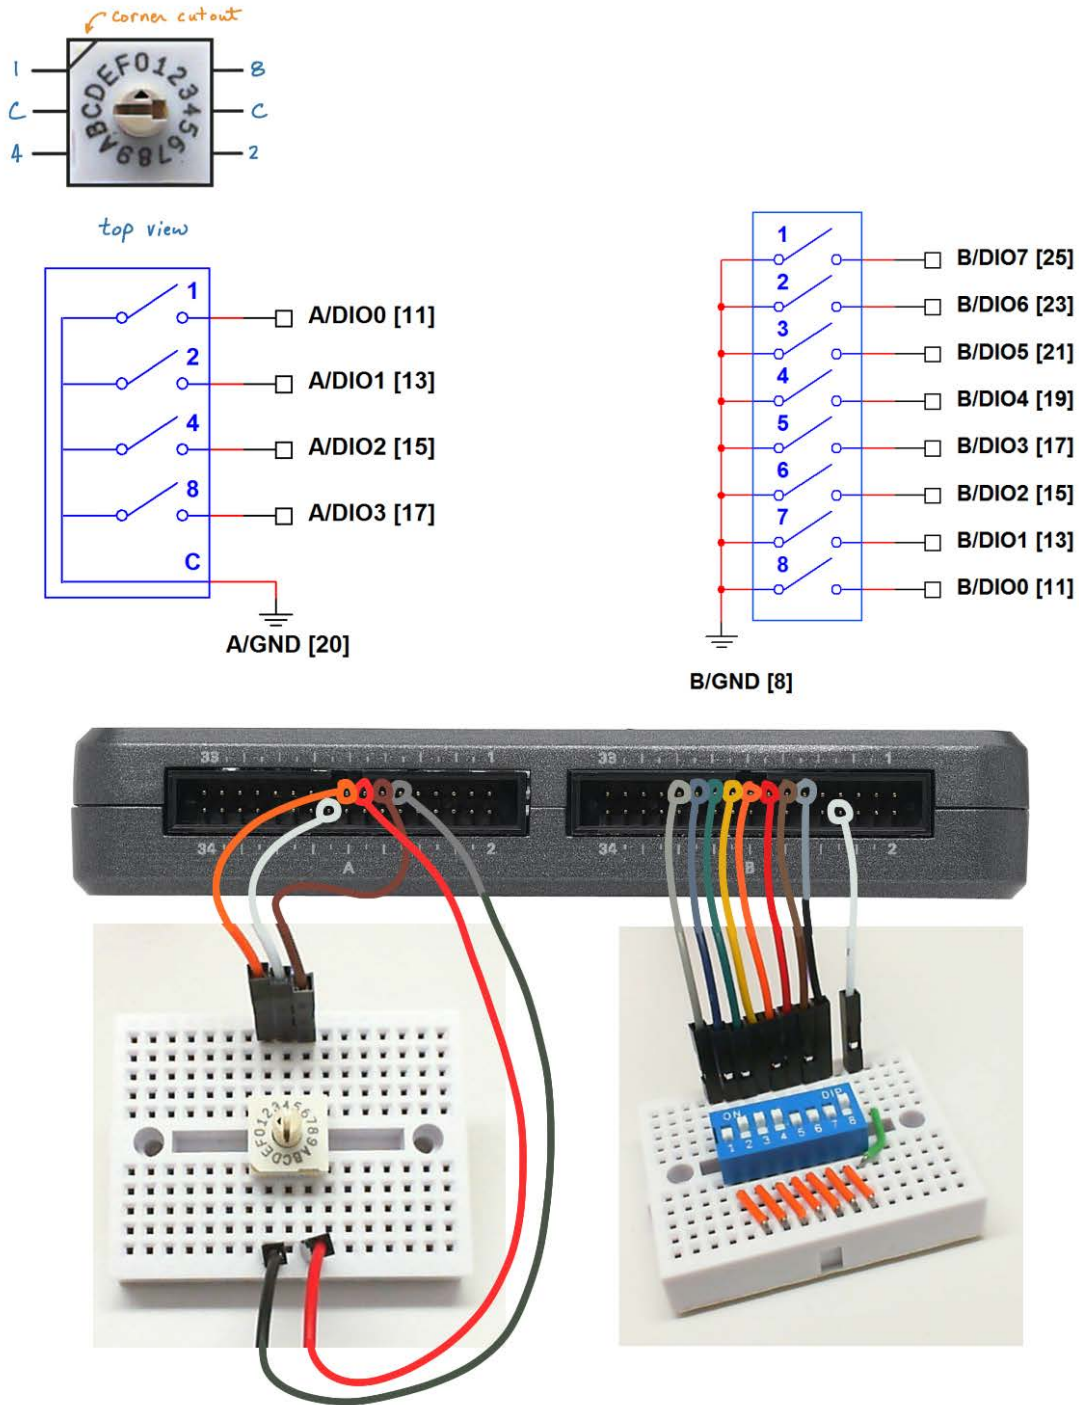

Figure 5.2: Demonstration circuit for DIP switches: schematic diagram, recommended breadboard layout, and connection to NI myRIO MXP Connectors A and B.
**Build the interface circuit:** Refer to the schematic diagram and recommended breadboard layout shown in Figure 5.2 on the facing page. The interface circuit for the DIP switches requires five connections to NI myRIO MXP Connector A and nine connections to Connector B (see Figure A.1 on page 233):